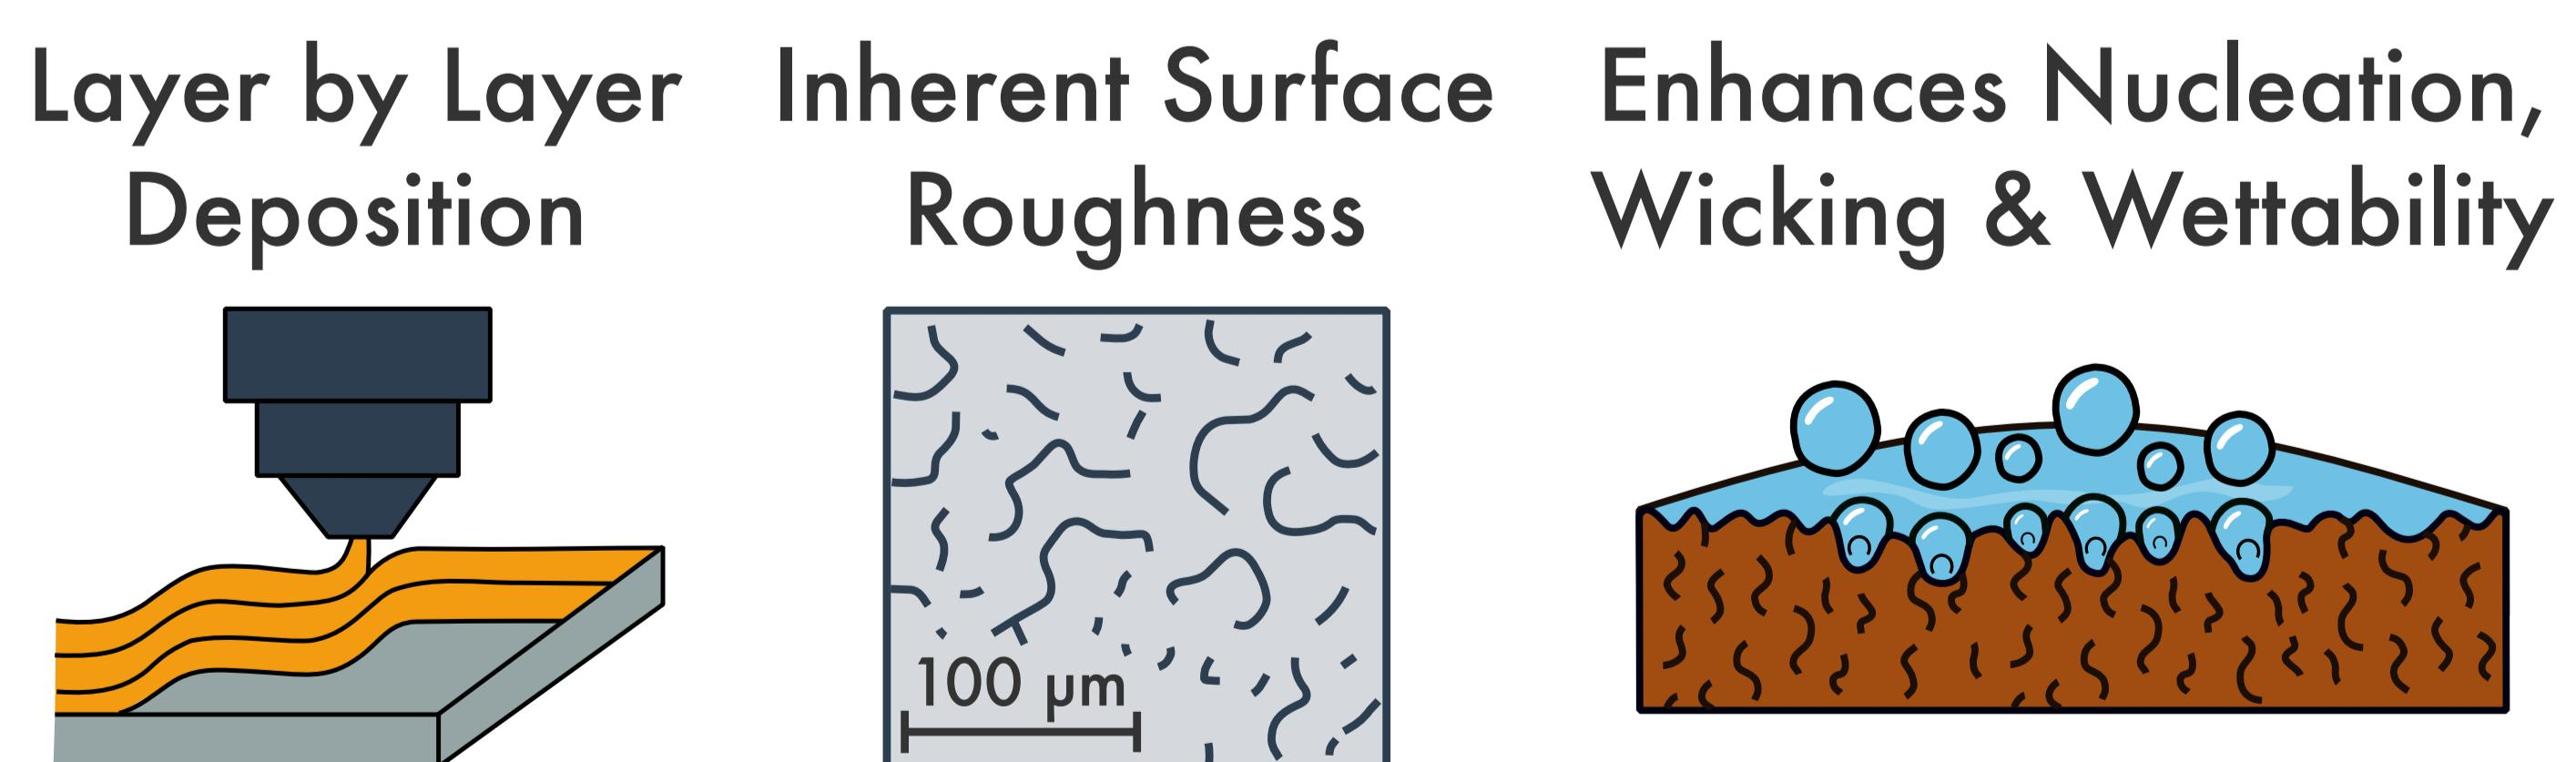

Figure 3. FDM Capabilities for Boiling Applications.
- Fused Deposition Modeling (FDM) Creates 3D-Printed Surfaces that Enhance Heat Transfer (Fig. 3).